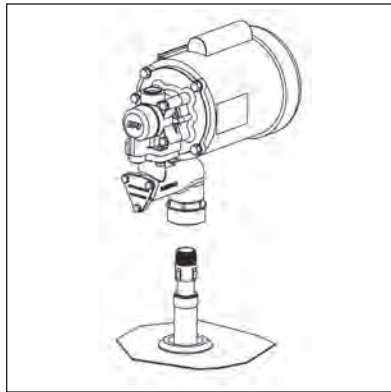

Figure 1
- Insert the suction pipe through the tank bung. Screw pump into tank bung to secure the pump to the tank. (Figure 1)